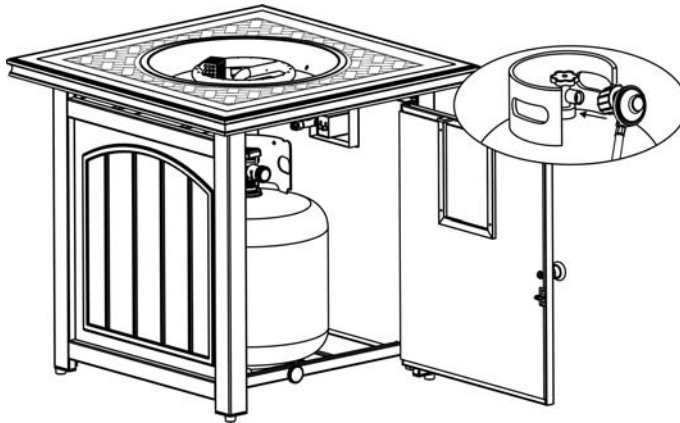

Figure 3
3. Slide the tank drawer out and place the LP tank in the drawer. Connect the regulator as shown in Figure 3. Turn the black handle clockwise to tighten. Turn the handle counterclockwise to remove. The hose must point down. Check that the valve is turned all the way clockwise to the "OFF" position. Open the tank valve. Apply a solution of soapy water to the tank-regulator connection and to the valve-hose connection to check for leaks. If soap bubbles continue to form, the connection has a leak. If a leak is found, close the tank valve and tighten all connections.